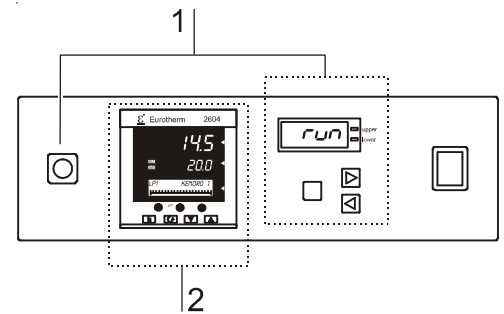

Fig. 8.
**Fig. 8:** The two functional units of the storage cabinet, the internal Plate Shuttle™ System (PSS) and the refrigeration system, are adjusted using two separate operating modules on the operating panel (see also Section 6, Handling and Control):
- **Fig. 8:** The displays of operating module [1] and [2] indicate a visual alarm (door).